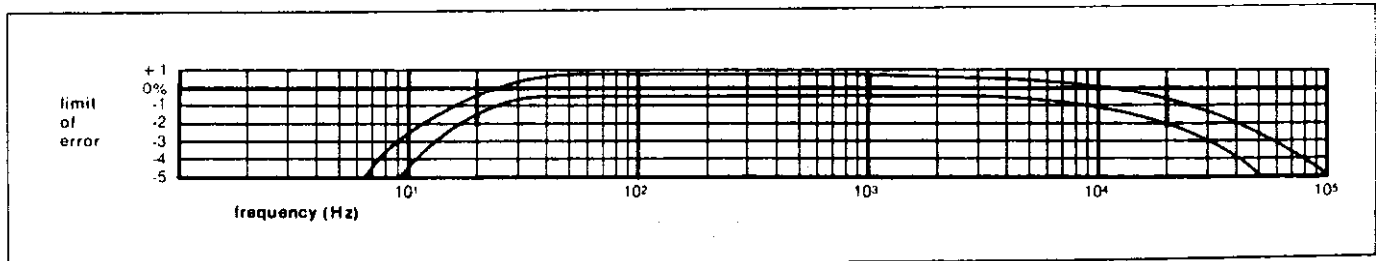

FIGURE 6. Typical AC Frequency Response of the Model 165.
3. Accuracy. The Model 165 detects the average value of an applied input ac waveform. The display of the 165 is calibrated to indicate the rms value of an applied sinewave. The accuracy (error limit) calculations given in Paragraph 2-6a3 also apply for ac measurements, except that 20 Hz and 20kHz, the specified accuracy is asymmetrical. Reference the specified ac-volts accuracy ranges at 20 Hz, 1kHz, and 20kHz. Typical accuracy bands at non-specified frequencies are shown in Figure 6.
3. Accuracy. The ac-current accuracy specification of the 165 is used to calculate the error limit of a specific measurement (see Paragraph 2-6a3), except at 20 Hz and 20kHz where specified accuracy is asymmetrical. Reference the specified ac-amps accuracy ranges at 20 Hz, 1kHz, and 20kHz. Typical accuracy bands at non-specified frequencies are shown in Figure 6, although the 10-1000 mA range has somewhat flatter response at 20kHz than that shown. Voltage burden (see Paragraph 2-7b2) can also produce error, depending on the level of the source voltage.